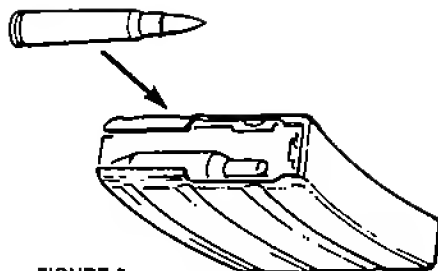

FIGURE 6 —
3. With short end of the magazine facing forward, place a round between the lips of the magazine with the bullet forward. Press the round down until it is held by the magazine lips. Place next round on top of previous round and repeat until desired number is loaded. (See Figure 6.)